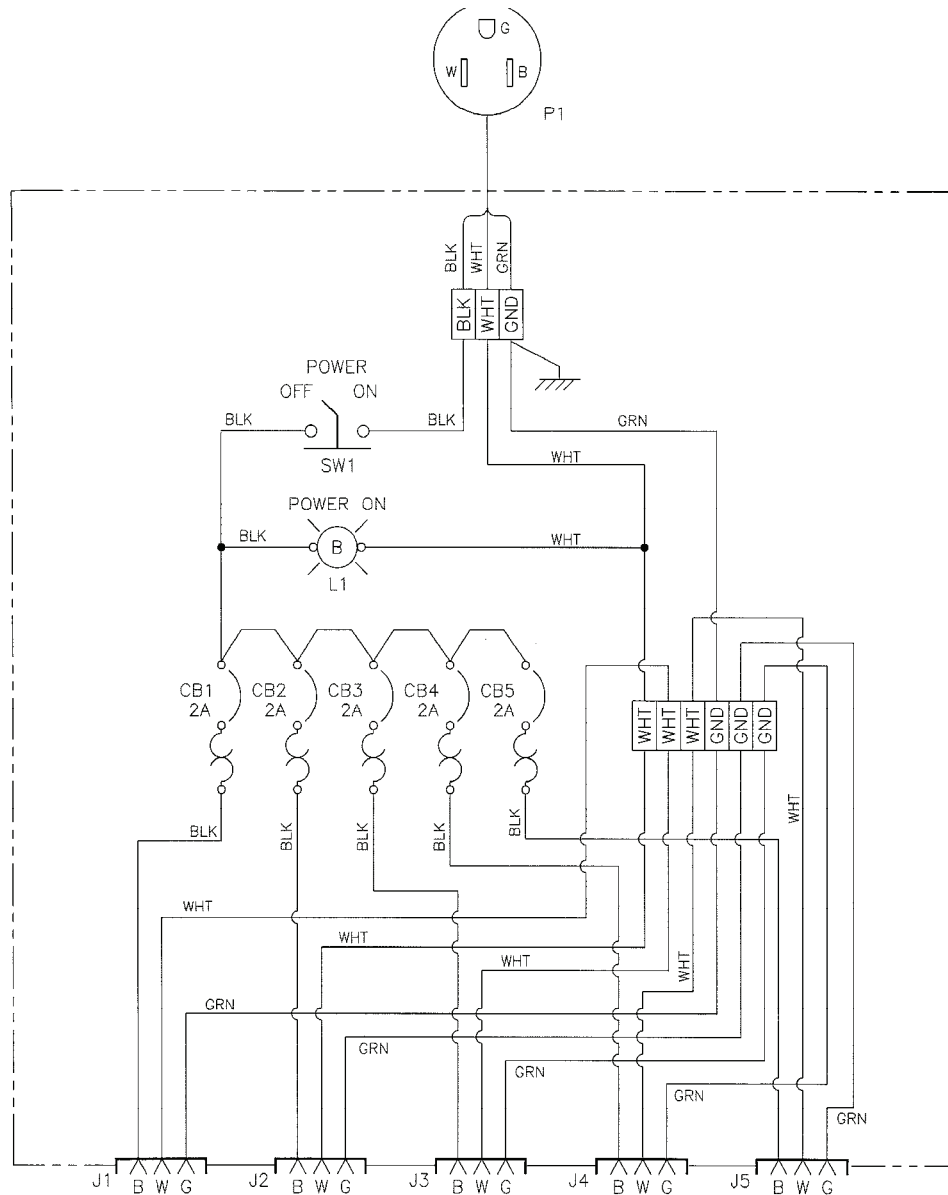

Figure 3. Power Distribution Panel Wiring Diagram.
3. Tag all wires with their position noted. See Figure 3.
5. Connect the wires to the switch using the previously noted tags. See Figure 3.
2. Disconnect three (3) wires (green, black, white) from rear of receptacle. Tag the wires for proper location. See Figure 3.
3. Connect three (3) wires (green, black, white) to rear of receptacle as previously noted. See Figure 3.
3. Connect two (2) black wires to terminals on circuit breaker (Figure 4, item 25). See Figure 3.